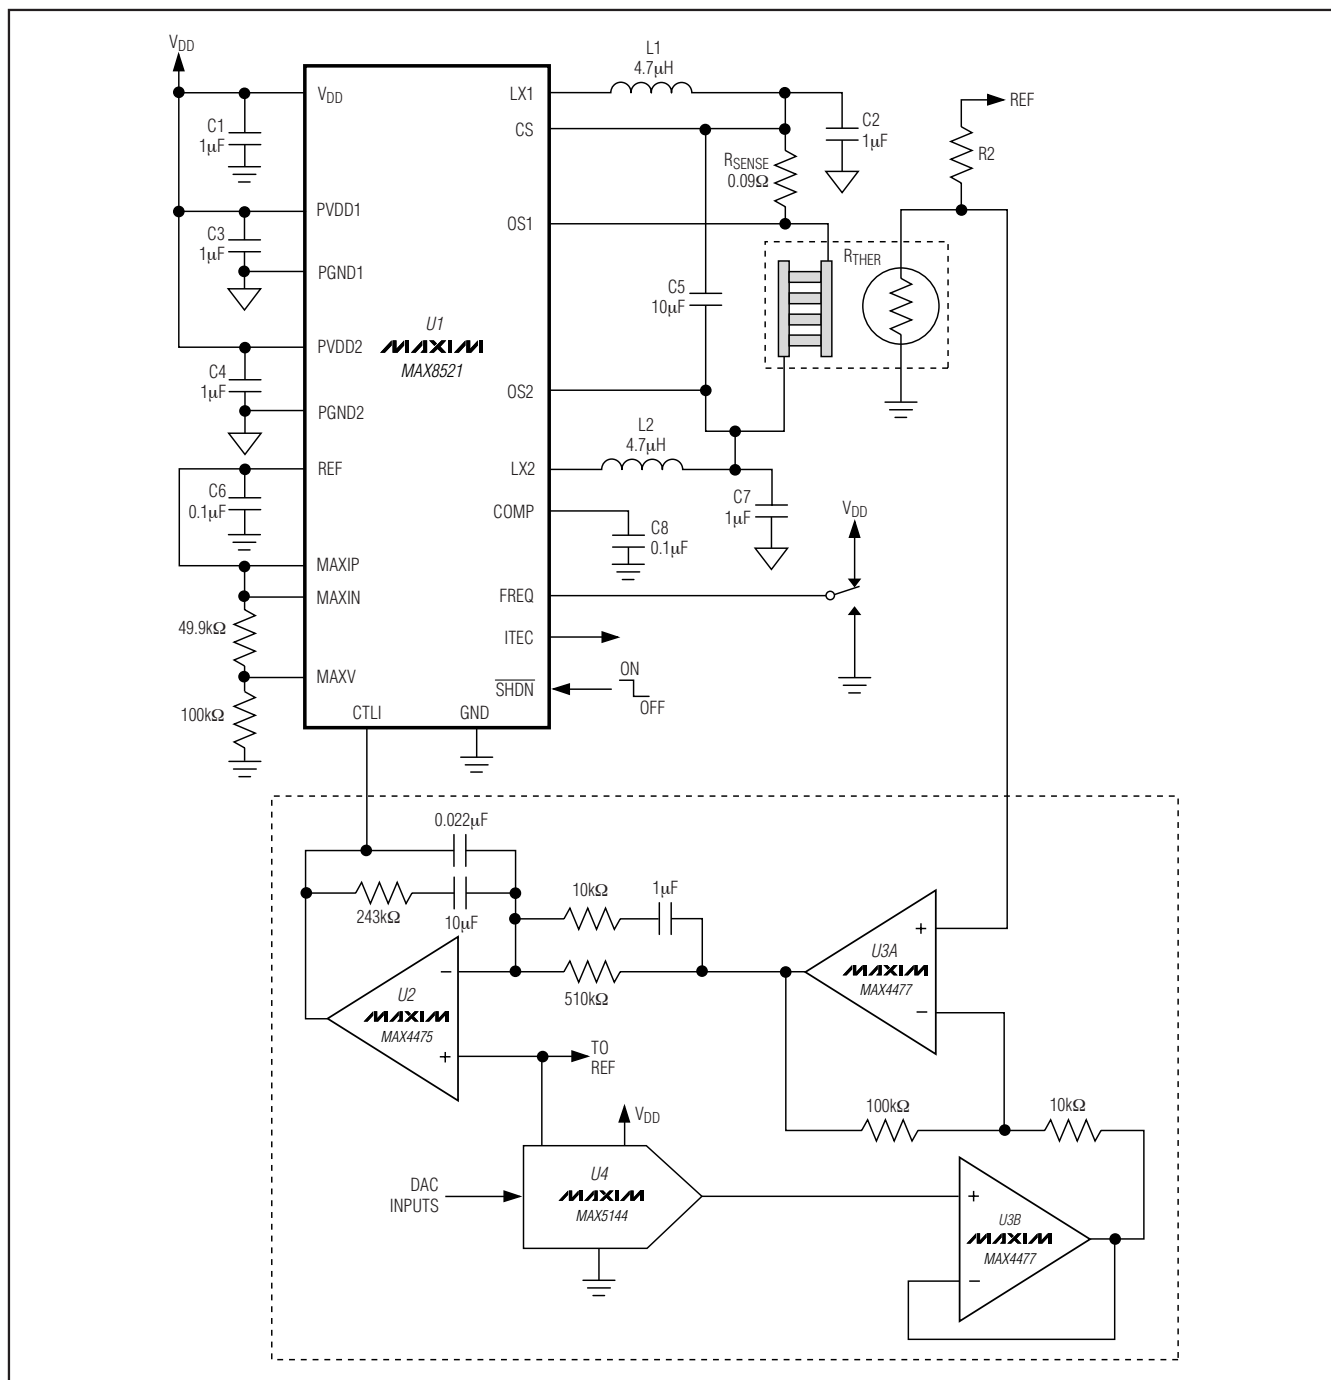

Figure 1. MAX8521 Typical Application Circuit
( $V_{DD} = 5V$ , circuit of Figure 1,  $T_A = +25^\circ C$  unless otherwise noted.)
The MAX8520/MAX8521 TEC drivers consist of two switching buck regulators that operate together to directly control the TEC current. This configuration creates a differential voltage across the TEC, allowing bi-directional TEC current for controlled cooling and heating. Controlled cooling and heating allow accurate TEC temperature control to within 0.01°C. The voltage at CTLI directly sets the TEC current. An external thermal-control loop is typically used to drive CTLI. Figures 1 and 2 show examples of the thermal-control-loop circuit.
Table 1. TEC Connection for Figure 1
The MAX8520/MAX8521 include an on-chip voltage reference. The 1.50V reference is accurate to 1% over temperature. Bypass REF with 0.1μF to GND. REF can be used to bias an external thermistor for temperature sensing as shown in Figures 1 and 2.
The common-mode filter capacitors (C2 and C7 of Figure 1) are used as filter capacitors to ground for each output. The output ripple voltage depends on the capacitance, the ESR of these capacitors, and the inductor ripple current. Ceramic capacitors are recommended for their low ESR and impedance at high frequency.
The differential-mode filter capacitor (C5 in Figure 1) is used to bypass differential ripple current through the TEC as the result of unequal duty cycle of each output. This happens when the TEC current is not at zero. As TEC current increases from zero, both outputs move away from the 50% duty-cycle point complementarily. The common-mode ripple decreases, but the differential ripple does not cancel perfectly, and there will be a resulting differential ripple. The maximum value happens when one output is at 75% duty cycle and the other is at 25% duty cycle. At this operating point, the differential ripple is equal to 1/2 of the maximum common-mode ripple. The TEC ripple current determines the TEC performance, because the maximum temperature differential that can be created between the terminals of the TEC depends on the ratio of ripple current and DC current. The lower the ripple current, the closer to the ideal maximum. The differential-mode capacitor provides a low-impedance path for the ripple current to flow, so that the TEC ripple current is greatly reduced. The TEC ripple current then can be calculated as follows:
There are numerous ways to implement the thermal loop. Figures 1 and 2 show designs that employ precision op amps, along with a DAC or potentiometer to set the control temperature. The loop can also be implemented digitally, using a precision A/D to read the thermistor or other temperature sensor, a microcontroller to implement the control algorithm, and a DAC (or filtered-PWM signal) to send the appropriate signal to the MAX8520/MAX8521 CTLI input. Regardless of the form taken by the thermal-control circuitry, all designs are similar in that they read temperature, compare it to a set-point signal, and then send an error-correcting signal to the MAX8520/MAX8521 that moves the temperature in the appropriate direction.
6) To ensure high DC-loop gain and minimum loop error, keep the board layout adjacent to the negative input pin of the integrator (U2 in Figure1) clean and free of moisture. Any contamination or leakage current into this node can act to lower the DC gain of the integrator which can degrade the accuracy of the thermal loop. If space is available, it can also be helpful to surround the negative input node of the integrator with a grounded guard ring.